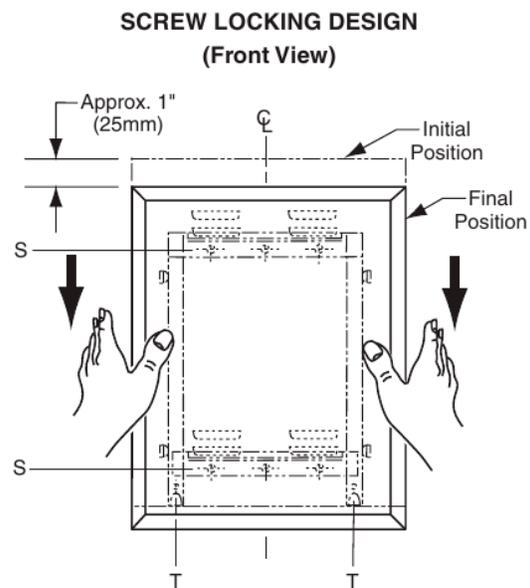

Figure: 4
**Screw Locking Design** — Lock mirror to wall hanger by tightening Phillips-head locking screws that are concealed in the bottom of frame at points indicated by a *T*. Mirror may be unlocked from wall hanger by loosening locking screws and lifting mirror off of concealed wall hanger (see figure 4).